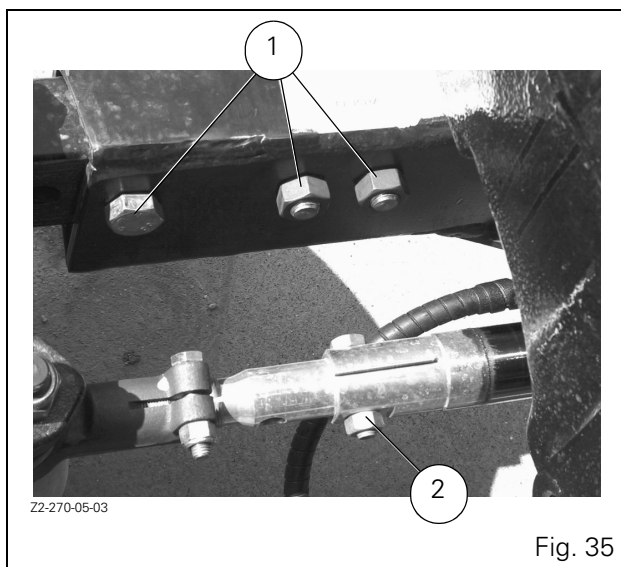

Fig. 35
2. Take out the three bolts (1, Fig. 35) which fix each telescopic arm to the axle beam and remove the bolt locking the telescopic ram (2, Fig. 35).